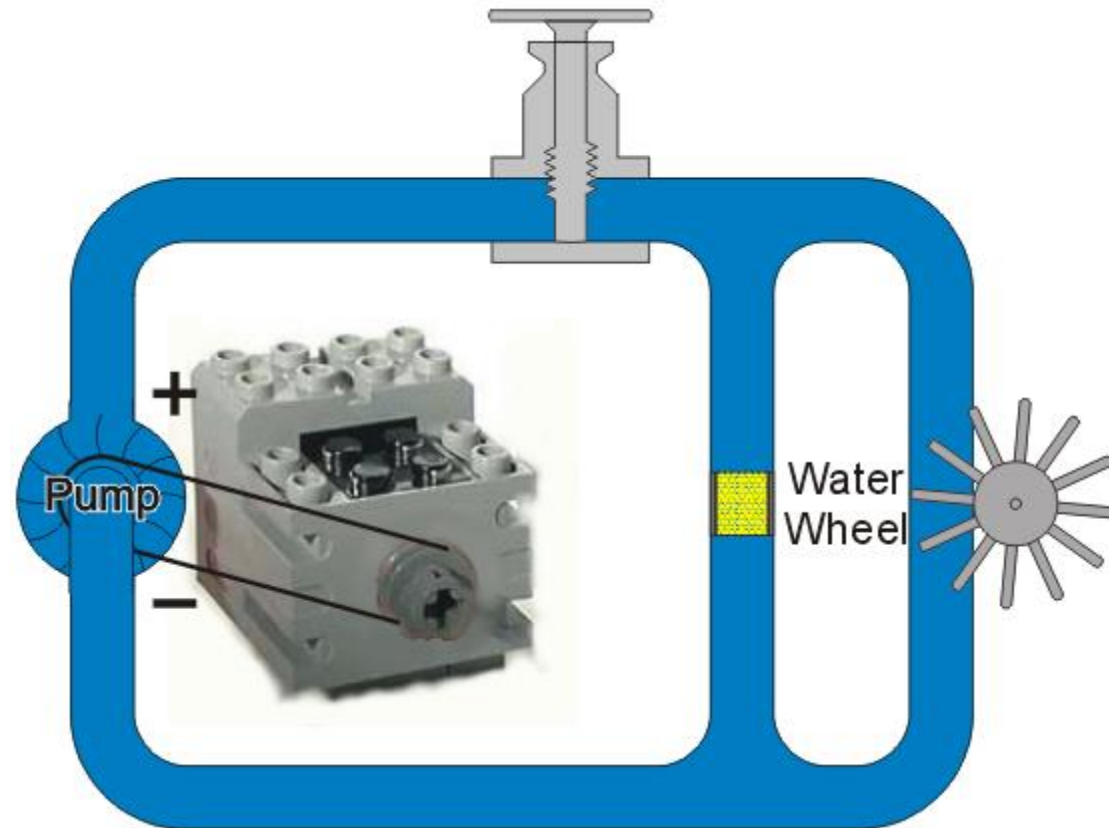

Fig 19: The energy of the turning wheel is dissipated in the sand filter
- The sand filter is resisting the flow of water and ultimately the water wheel will stop rotating as shown in **Fig.19**.